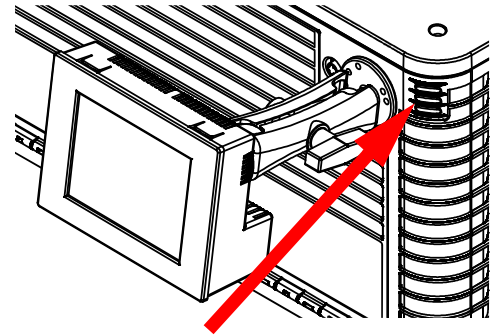

Figure 5-1 Projector Status LEDs
2. Check the status of the LEDs on the rear corners of the projector. (Figure 5-1). If there is no activity, see Step 3.